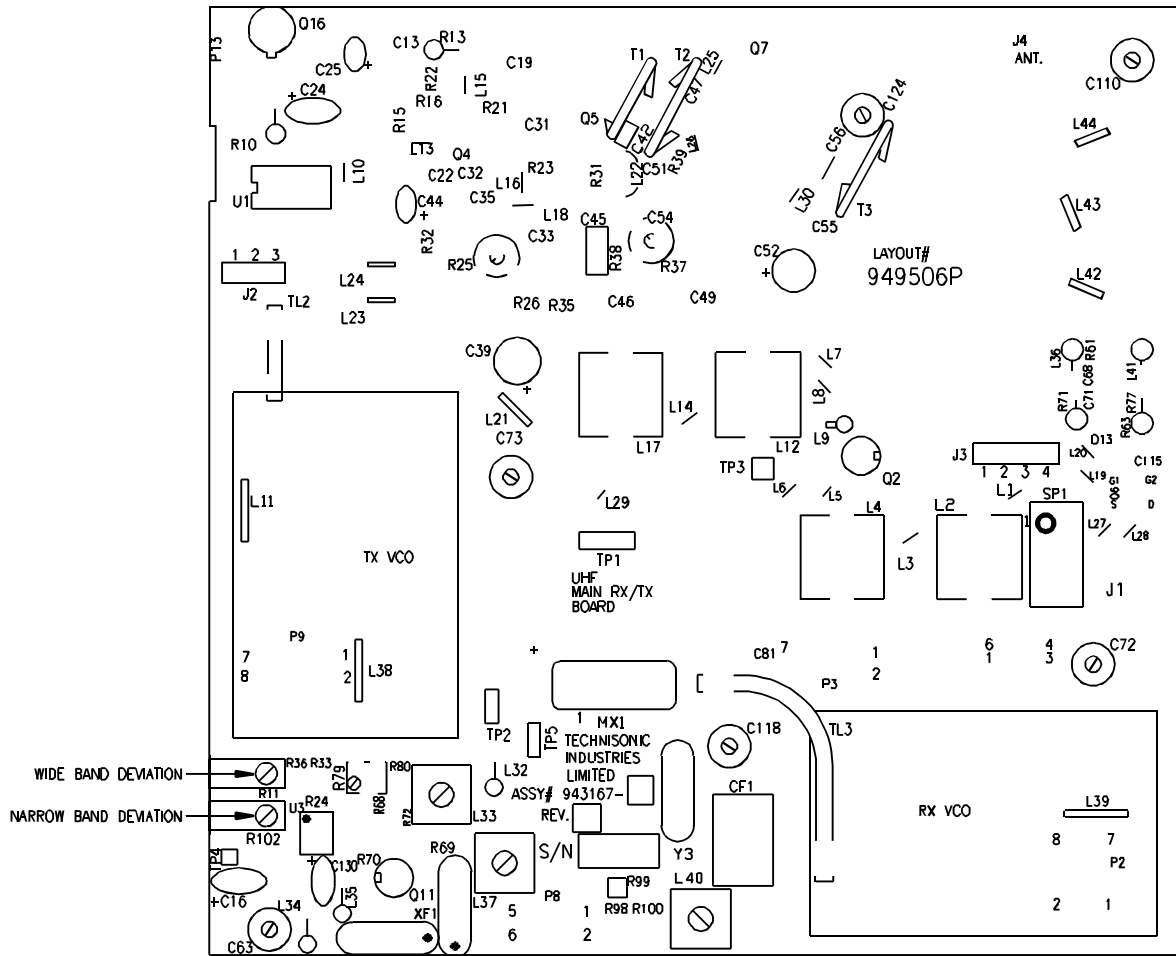

FIGURE 3-5 Deviation Adjustment Potentiometer Location
1. Remove and retain the eight (8) No. 4-40 screws securing the top cover of the transceiver to its chassis. You should now have access to the Main Rx/Tx Module.
4. Adjust the deviation limit potentiometer, R11 on the main Rx/Tx module (see Figure 3-5) to produce a ± 4.2 KHz deviation (with no CTCSS or DPL codes enabled).
6. Adjust the deviation limit potentiometer, R102 on the main Rx/Tx module (see Figure 3-5) to produce a ± 2.1 KHz deviation (with no CTCSS or DPL codes enabled).
8. Place top cover on transceiver chassis and secure all eight (8) screws.